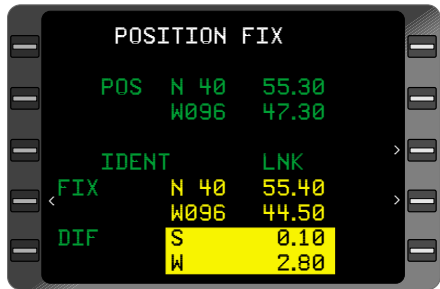

Figure 3-179
- d. **ENTER** Key - DEPRESS. The **DIF** display shows the direction and distance in degrees, minutes and hundredths of minutes from the **FIX** position to the composite position. (Figure 3-179)